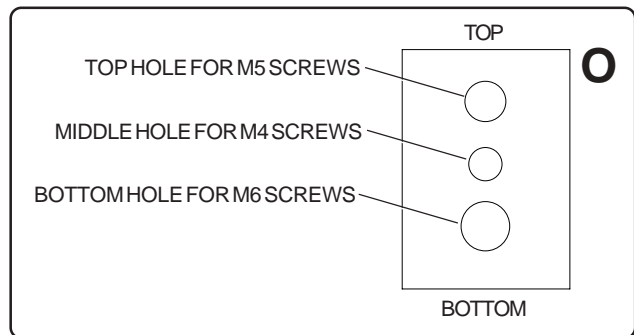

fig. 1
1 Using your screen's configuration letter from the previous table, find the configuration that corresponds to your screen. Refer to the table below to find which fasteners to use when installing the adapter brackets and use the corresponding hole in the multi-washer (O) that matches your screw size as shown in figure 1.